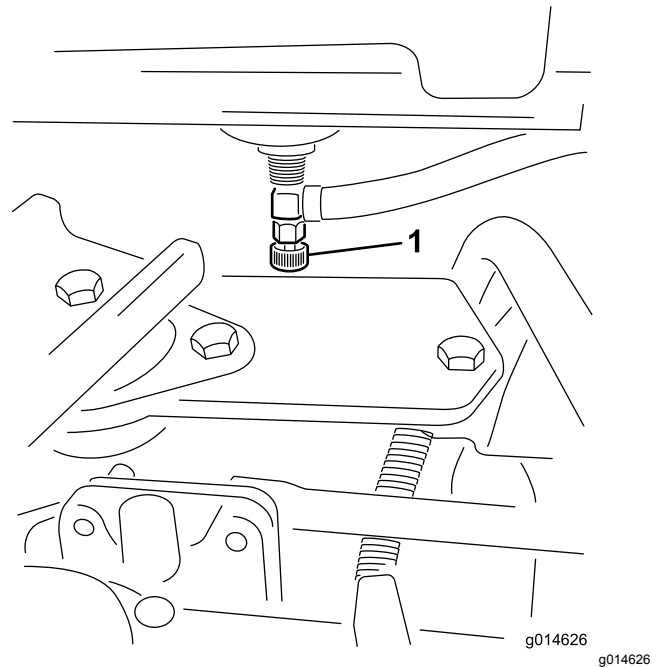

Figure 42
1. Close the fuel-shutoff valve (Figure 42) below the fuel tank.